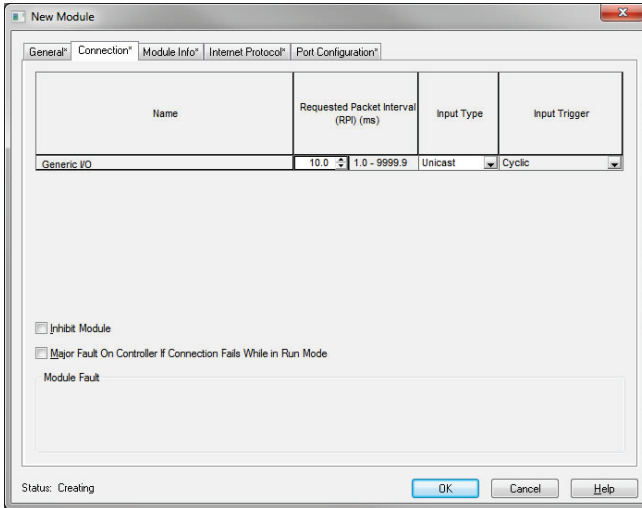

Figure 48: AOP New Module Properties Connection Tab
- 13) Click on the “Connection” tab. Refer to Figure 48.